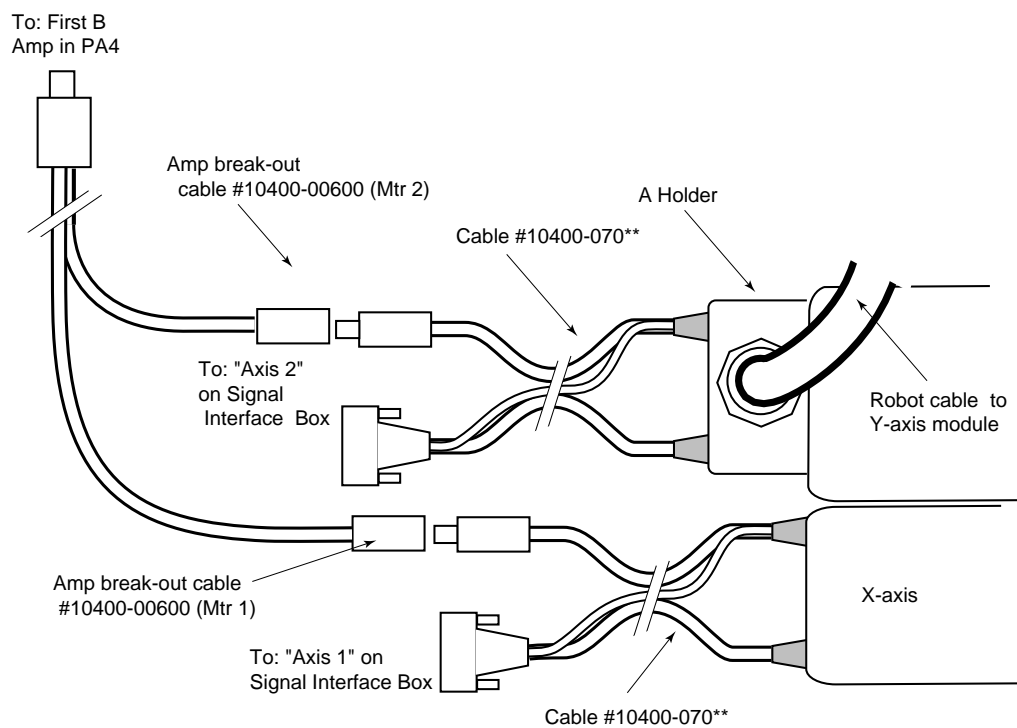

Figure 4-25. Connecting to an Adept MV Controller
- a. Connect the two barrel ends of the cable to the X-axis module as shown in Figure 4-25. These connectors have different pins sizes and cannot be installed incorrectly.
- b. Attach the A holder end of the robot cable to the small mounting plate of the X-axis module as shown in Figure 4-25 (refer to Section 4.3 for holder mounting).
- d. Connect the two barrel ends of the cable to the A holder as shown in Figure 4-25. These connectors have different pins sizes and cannot be installed incorrectly.